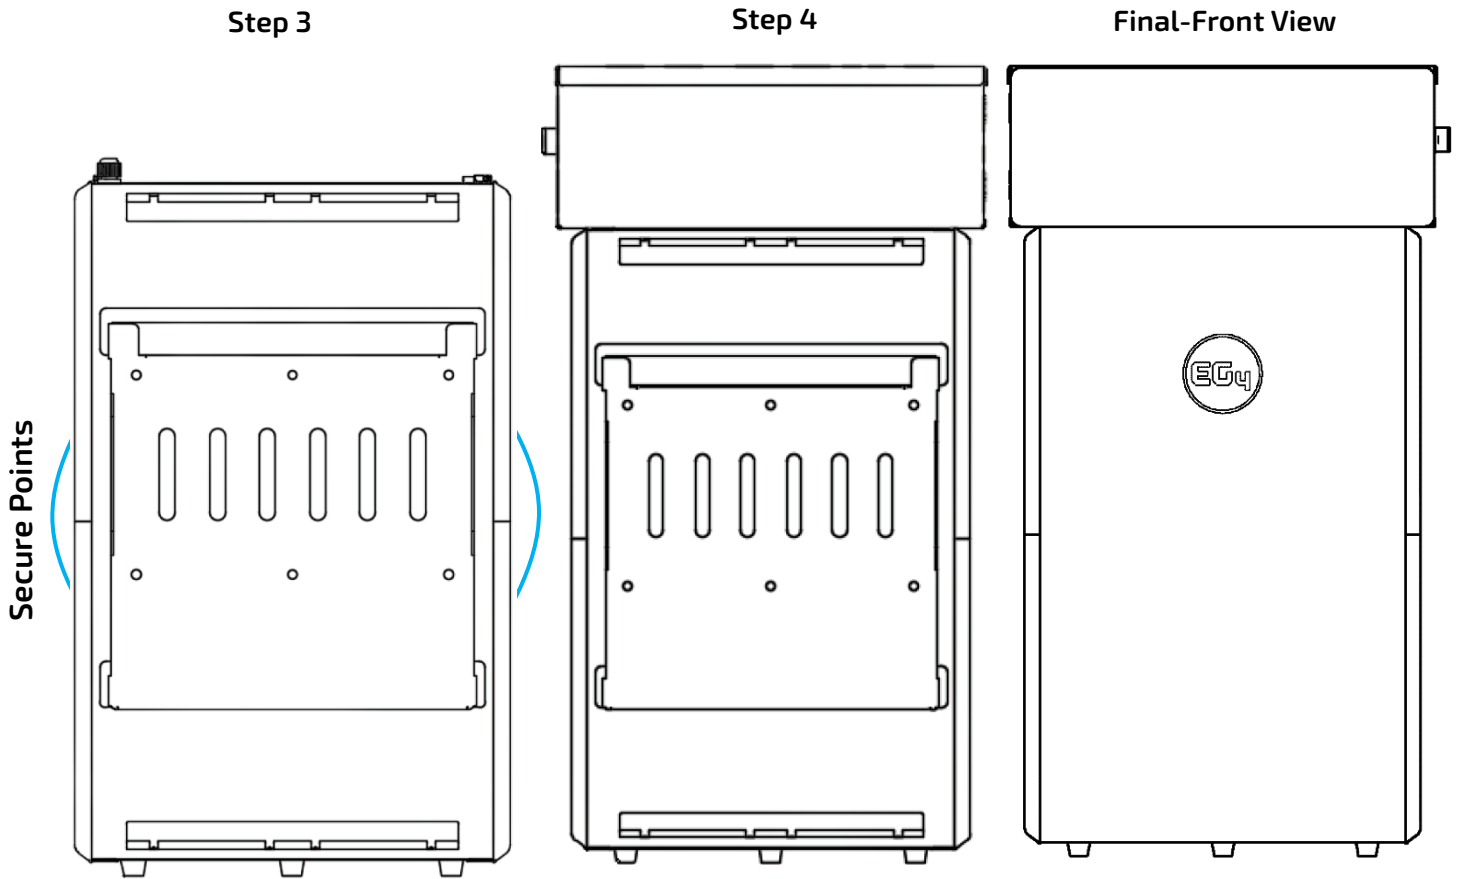

Figure 12 - WallMount Installation with Conduit Box Steps 3, 4 & 5
3. Attach the WallMount battery pack to the mounting bracket. To accomplish this, lift the battery up and hook the flange on the back of the battery into the flange on the front of the mounting bracket. Secure the battery to the mounting bracket with the 4 included side screws (see Figure 12)